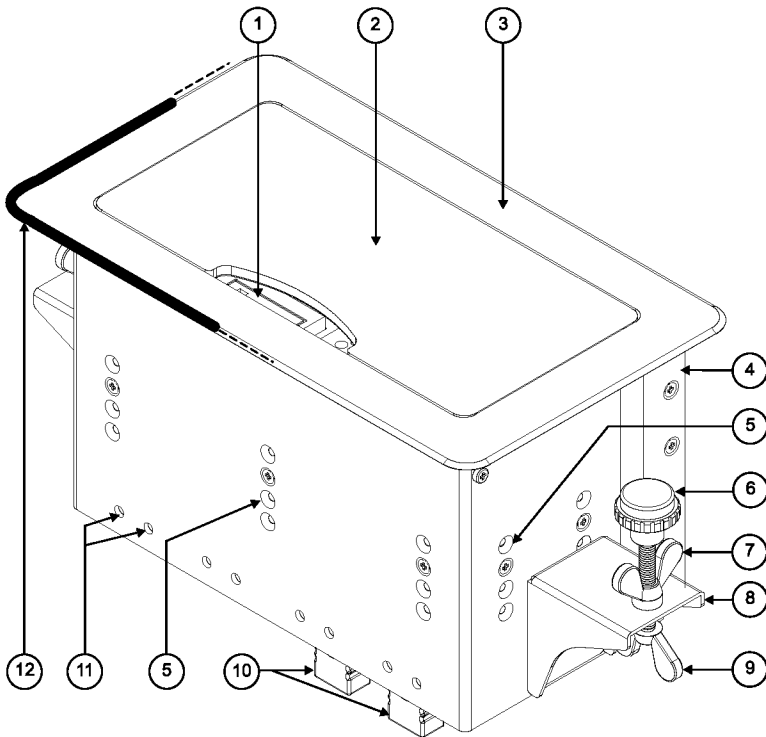

Figure 2: TBUS-6 Table Connection Bus (Top View)
Figure 2 and Table 1 define the unit.
1. Remove the seven height adjustment screws (three screws on the front and two screws on each side, as shown in *Figure 2*), while supporting the surface from underneath with your fingers.
3. Take the support brackets under the table and place them into the support bracket grooves on both sides of the unit (see *Figure 2*).